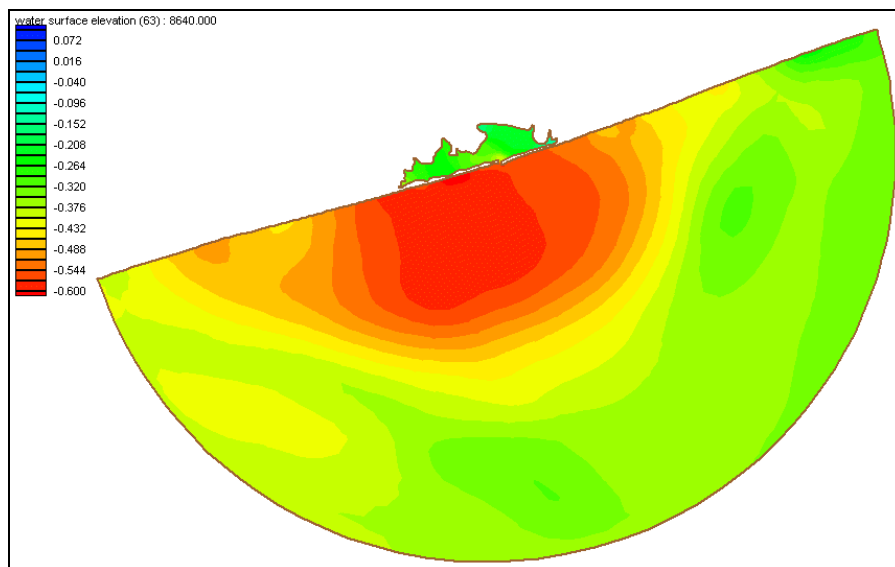

Figure 13-6 ADCIRC output from the "fort.63" file.
9. Click *OK* two times to exit these dialog boxes, and *SMS* will redraw the screen as seen in Figure 13-6.